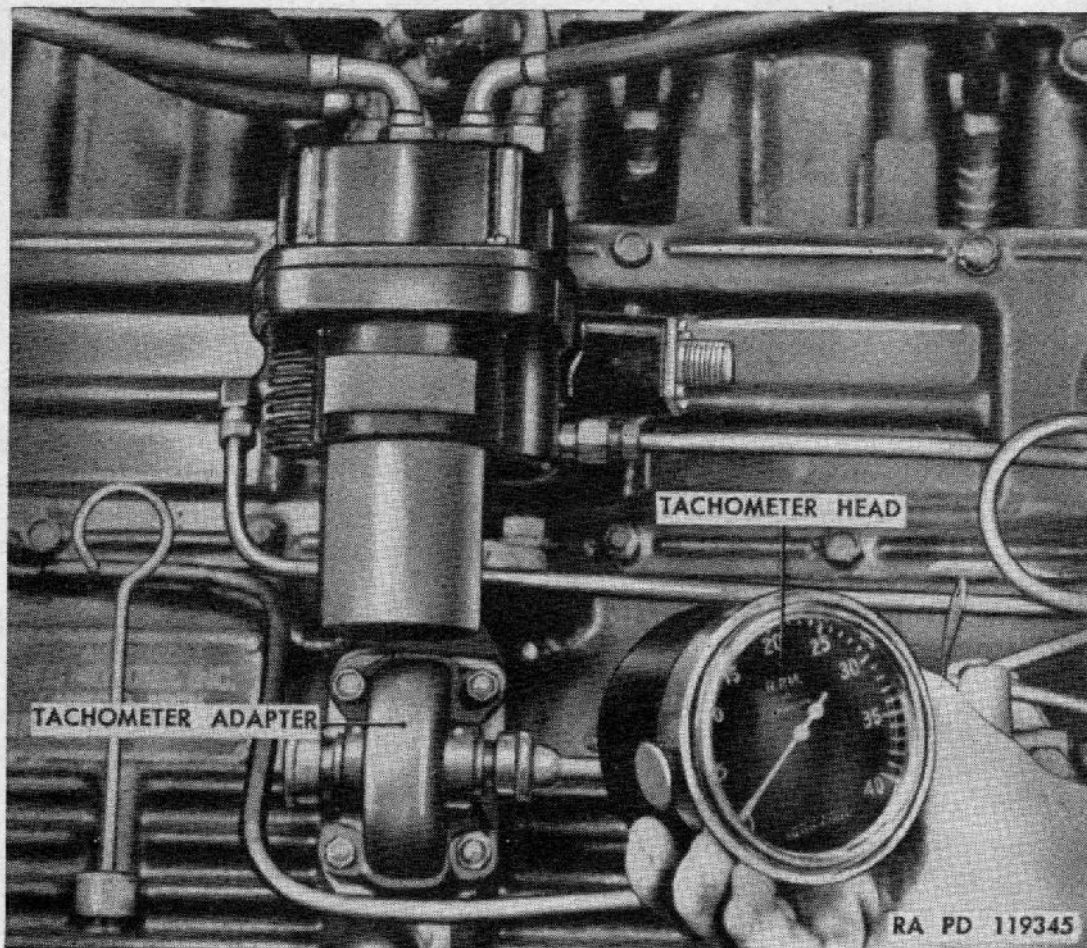

Figure 58. Using tachometer to check engine revolutions per minute.
b. ADJUSTMENT. No adjustment is permitted. The necessity for adjustment may be discovered by the use of a tachometer. On early models of the M34 truck, engine speed was checked by a mechanical tachometer. To use this instrument remove tachometer-drive-opening cover on left side of crankcase below distributor, insert the tachometer adapter and secure (fig. 58). A recently developed electrical tachometer 18-T-231 is now being used for this purpose. To use, the small plug in distributor cover (fig. 69) is removed, a distributor primary adapter 17-A-1375-50 is installed in cover, one terminal of tachometer is connected to adapter to make contact at coil terminal, and the other terminal is grounded. Check engine speed with throttle